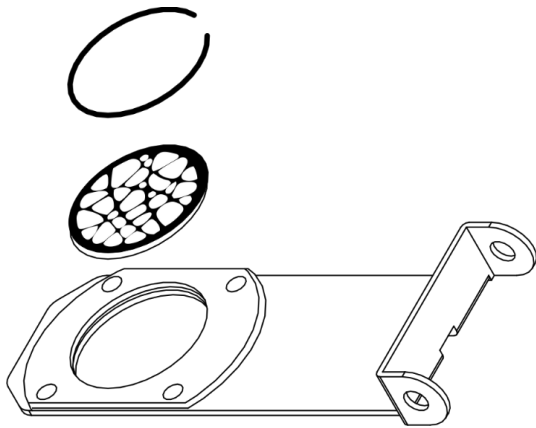

Fig. 22
- 01) Remove the retaining ring from the **gobo holder (12)** with needle-nose pliers or a similar sharp tool.
- 02) Change the metal gobo. Make sure that the painted (black) side of the gobo is facing upwards as shown on Fig. 22. When inserted back into the gobo slot, the painted (black) side should be facing the **lens (07)**.